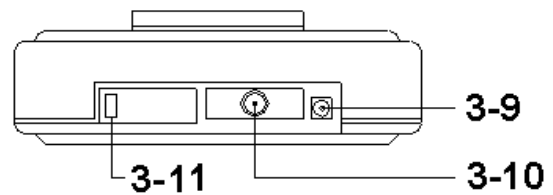

Fig. 1
Adjust the " Rubber Pad " ( 3-7, Fig. 1 ) until the water bubble of the " Level Bubble " ( 3-2, Fig. 1 ) on the center position, then the scale already install under the horizontal position completely.
2) Set the "g" or "oz" unit by slide the " Unit Switch " ( 3-11, Fig. 1 ).
3) Turn the " Power Switch " ( 3-6, Fig. 1 ) to the " On " position.
The " Display " ( 3-5, Fig. 1 ) will show " 8.8.8.8.8 " for a few seconds, then " 0 " value ( 0.00 g for gram function, 0.0000 for oz function ) will be present.
After weighting the first item, press " Tare Button " ( 3-4, Fig. 1 ), scale will reset to zero values automatically. At the same time, the LCD display will show the " TARE " mark. Place next weighted item onto scale. Scale will give weights of the second only.
Press the " CAL. Button " ( 3-3, Fig. 1 ) once, display will show the value of " 200.00 g "
Following press the " Tare Button " ( 3-4, Fig. 1 ) once, display will show the value of " 400.00 g "
Press the " CAL. Button " ( 3-3, Fig. 1 ) once again, display value of " 400.00 g " will flash 6 times, then the calibration procedures are finished completely & balance is ready for the measurement accurately.
Press the " CAL Button " ( 3-3, Fig. 1 ) once again, display value of " 200.00 g " will flash 6 times, then the calibration procedures are finished completely & balance is ready for the measurement accurately.
- 2) Use the finger to hold the " CAL. Button ( function A Button ) " ( 3-3, Fig. 1 ), at the same time set the " Power Switch " ( 3-6, Fig. 1 ) to the " On " position. Until one beeper sound is present, then release the finger away from " function A Button ".
c. Until the display reach the no. of sample units exactly, for example " 50 ", push the " function A Button " ( 3-3, Fig. 1 ) once a while. The display will flash twice and freeze the sample counting no., then take away the sample units. Now the balance is ready for counting.
- b. Push the " function A Button " ( 3-3, Fig. 1 ) once a while. LCD will show no. of sample units from 10, 20, 50, 100 in sequence & changed per second.
- c. Put the counting sample units ( For example 10 PCs, 20 PCs, 50 PCs or 100 PCs ) on the platform. Until the display reach the no. of sample units exactly, for example " 50 ", push the " function A Button " ( 3-3, Fig. 1 ) once a while again. The display will flash twice and freeze the set counting no., then take away the sample units. Now the balance is ready for counting & the sample counting units already change to new value.
- 1) Open " Battery Cover " ( 3-8, Fig. 1 ) located at the bottom of the scale.
- 2) Plug the jack from the Adapter into the " DC 9V receptacle " ( 3-9, Fig. 1 ).
The instrument features an RS232 output via 3.5 mm Terminal ( 3-10, Fig. 1).